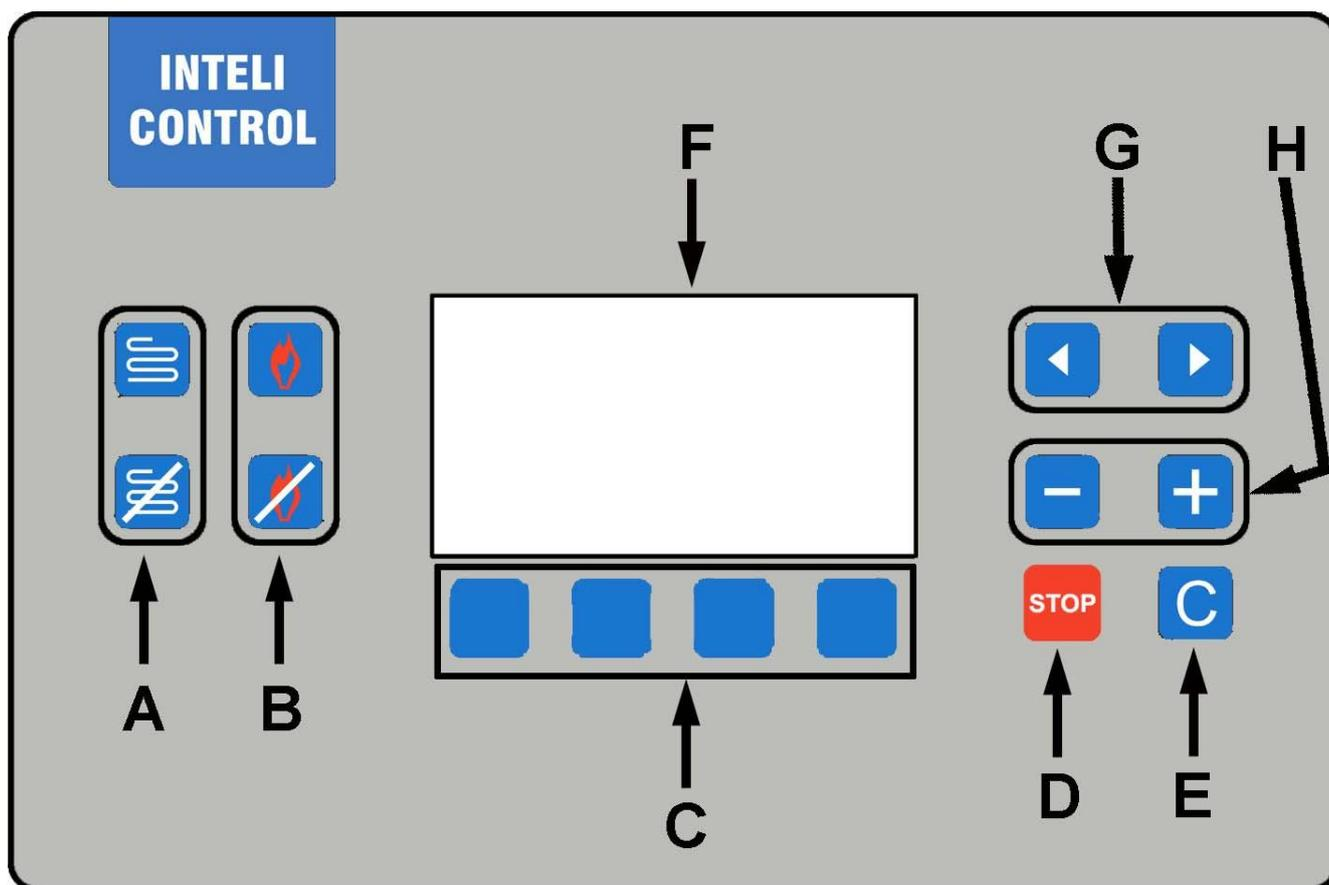

Fig. 7.1
**Description of the control panel (Fig. 7.1)**